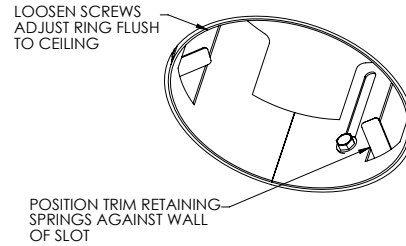

FIGURE 5
1. With finished ceiling or tile in place, check position of locking springs attached to frame. Rotate springs if necessary so that they are against wall as shown in Figure 5.
2. Before re-installing the trim, rotate the locking springs back against the slot wall in the adjustment ring (See Figure 5).